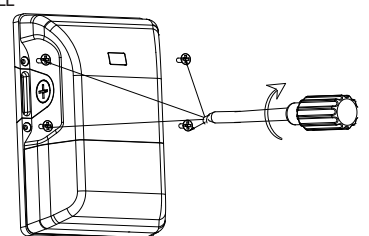

Fig. 7A
8. Close the luminaire by screwing the four screws (Fig. 7A).
8. Fermer le luminaire en vissant les quatre vis (Fig. 7A).